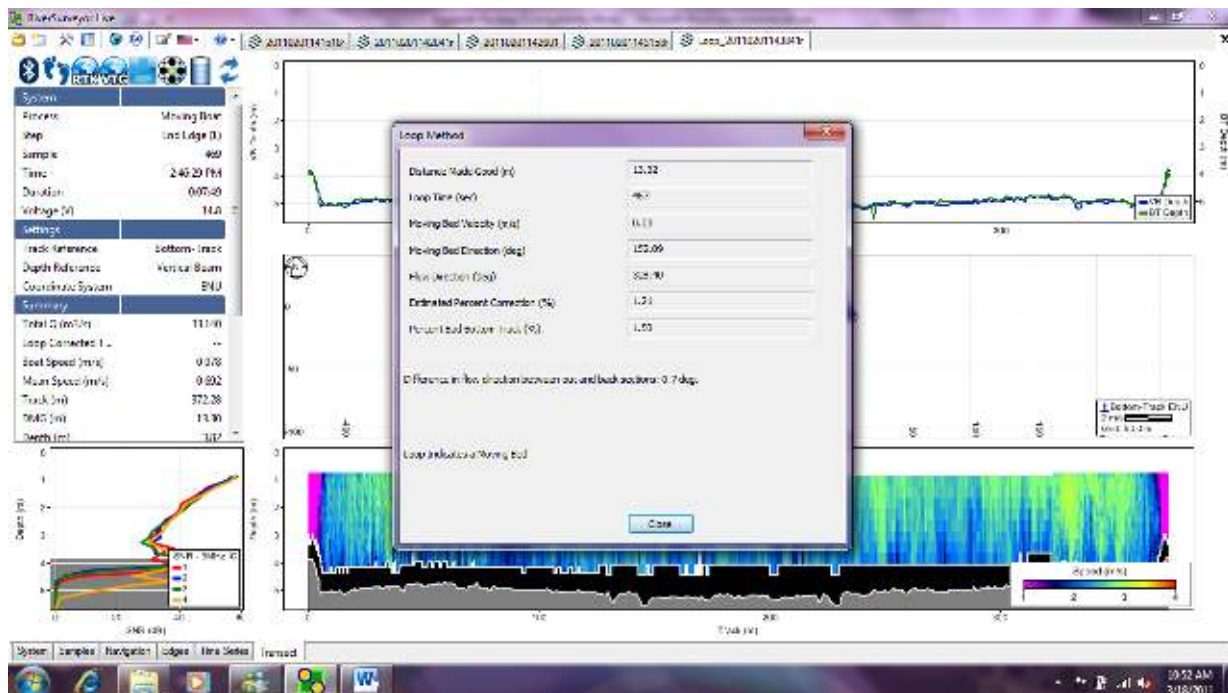

Figure 133. Loop Method Results
4. The Loop Method results will be processed and displayed as shown in Figure 133. Click **Close** after the results are reviewed.